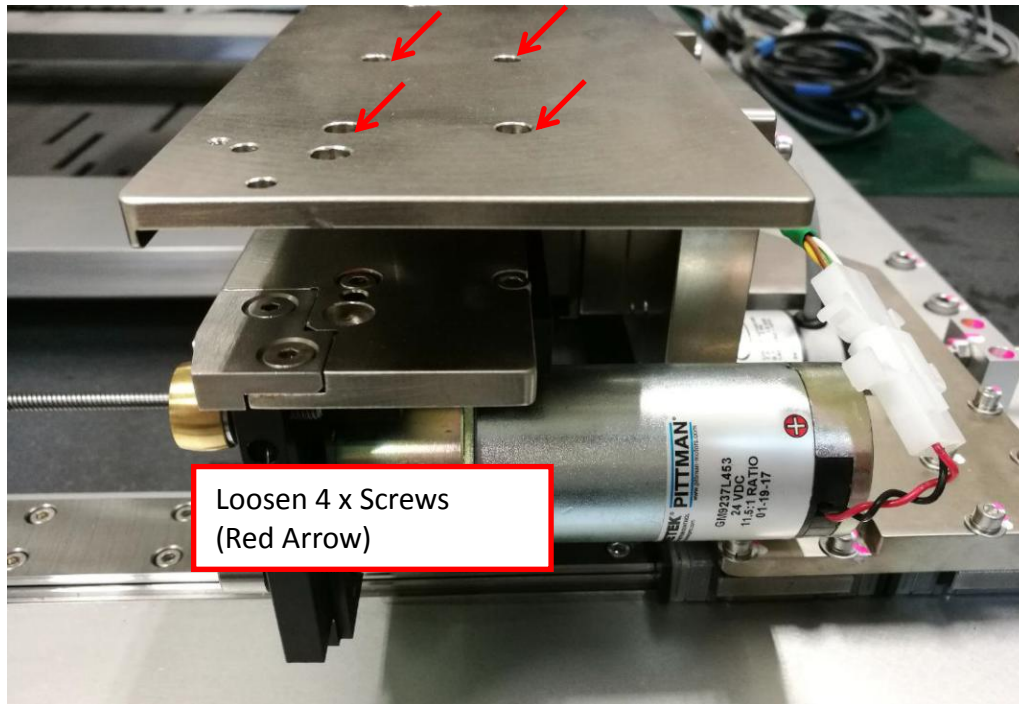

Figure 3 Adjustable Rail Motor Pulley
4. Loosen 4 x Screws. Remove Adjustable Rail Motor Pulley as shown in Figure 3 & 4